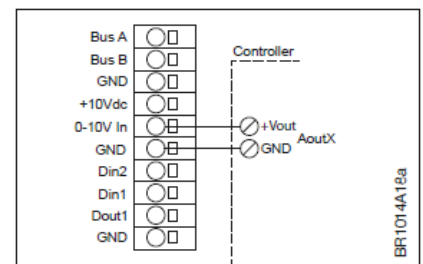

Fig. 3-14.3
- External control, electrical connection, see fig. 3-14.3